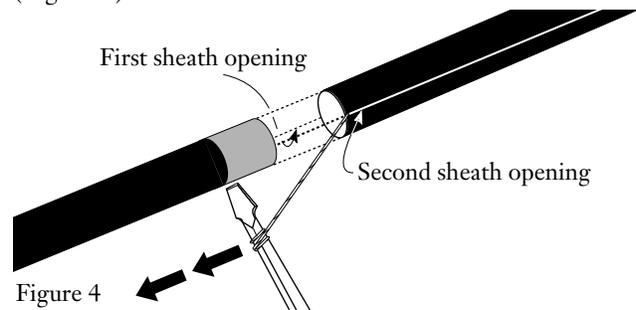

Figure 4
4.4 Using the shaft of a screwdriver as a handle, pull one rip cord at a time through the sheath to the wrap of tape (Figure 4).